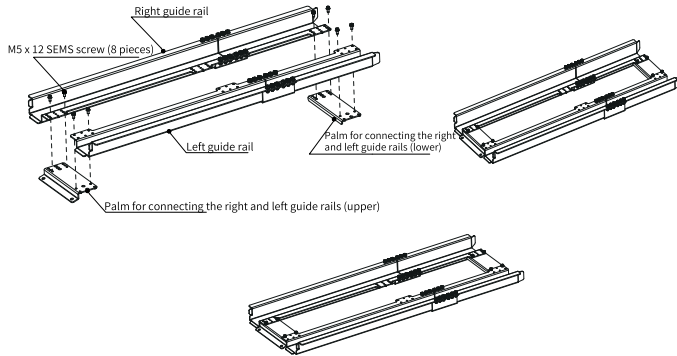

Figure 1-12 Making a guide rail assembly
a. "Figure 1-12 " on page 21 shows how to make a guide rail assembly.